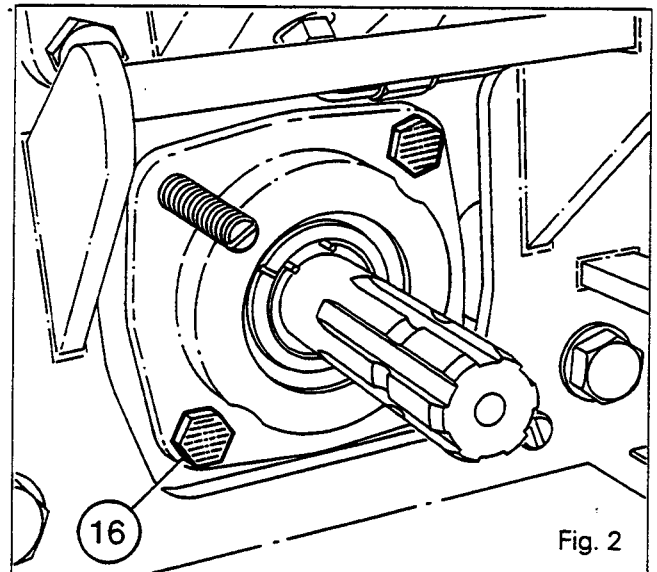
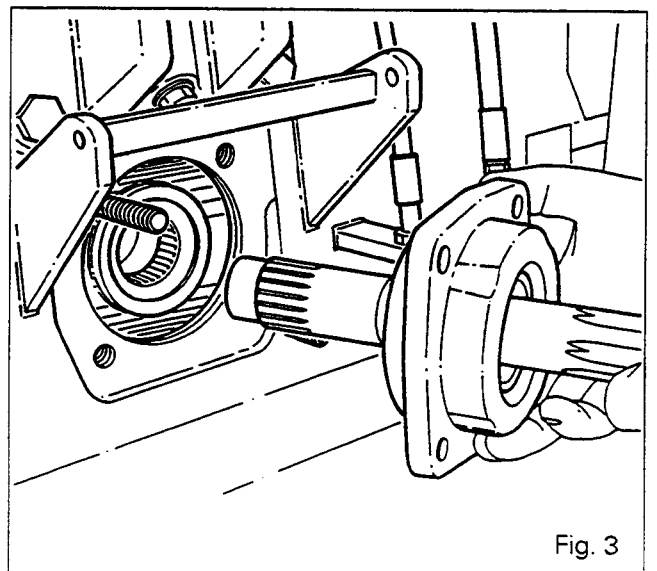

Fig. 2
Fig. 3
8. Partially drain the rear axle housing. Remove two diametrally opposed bolts (16) (Fig. 2).
9. Screw two guide studs (Fig. 2) against the gear (6). The purpose of this is to hold the gears (5) and (6) in line when removing the shaft (10) and the rear cover assembly (Fig. 3).
10. Remove the other two bolts (16) (Fig. 2).